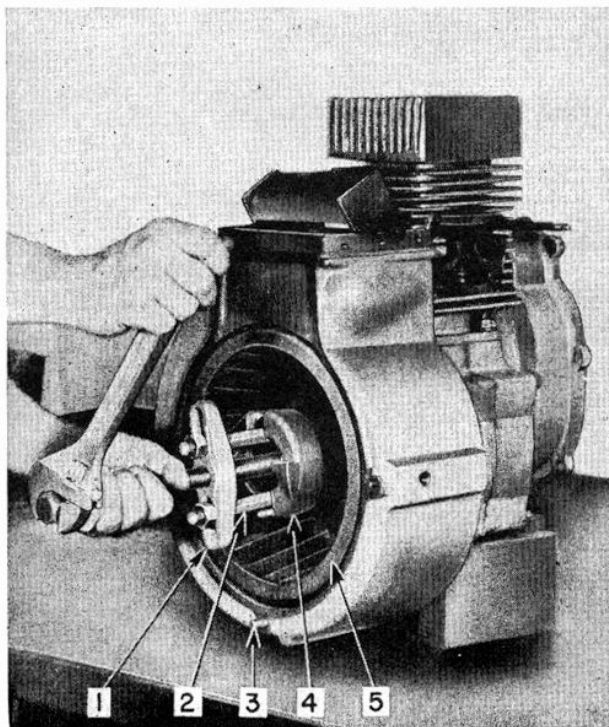

FIG. 7—REMOVING STARTING DOG
- b. Using puller GP-18 with puller dogs, remove starting dog. (See figure 7.)